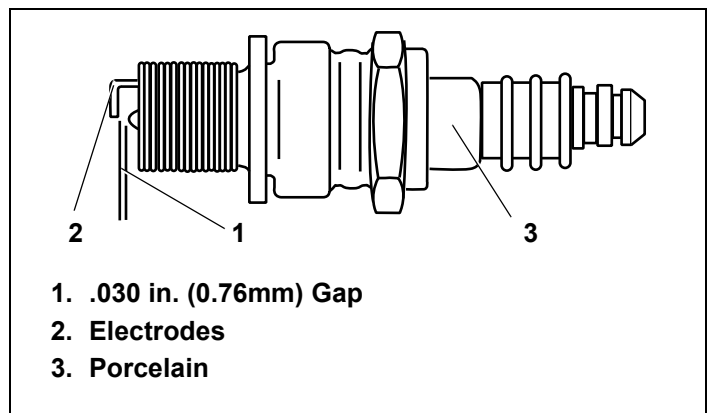

Figure 51. Resistor Spark Plug
4. Check electrode gap with wire feeler gauge and set gap to—.030 in. (0.76mm) if necessary. See Figure 51.